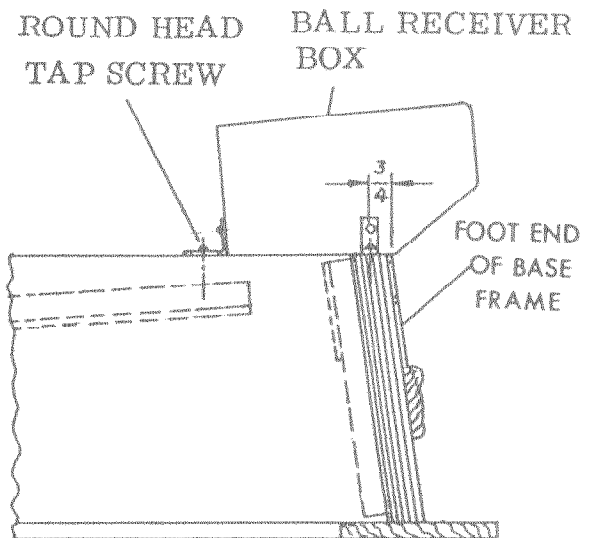

FIGURE 2
- 1B. Position the ball receiver box at center of foot end base frame member and attach securely four places with round head phillips tap screws, #10 x 1" (Figure 2).